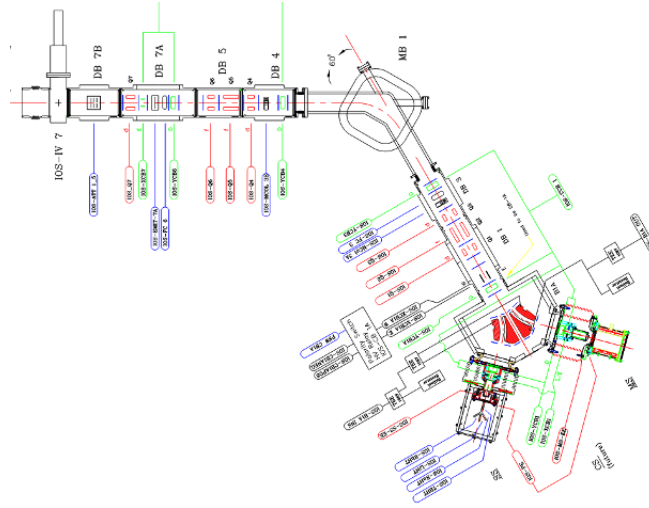

Figure 17: Olis Technical Drawing
Several agents are already trained on different beamlines at ISAC and ready to be tested. The main focus is on beamlines coming from OLIS. Unfortunately, the OLIS beamline is an old beamline, which means that the optical elements are highly misaligned and a lot of steering is needed for transmission. The current coming from the source is low, which means that a beam hitting components of the beamline is not destroying, but it needs beam destructive measurement devices. Taking measurements of the beam current and position takes time. However, due to its high availability OLIS is a good starting for the project to test and learn about trained agents. Figure 17 shows a technical drawing of the beginning of the beamline. In total 3 sources are available (Microwave Source (MS), Surface Source (SS) and Multi Charge Ion Source (MCIS)). The MCIS produces a large B-field, which requires a lot of steering at the beginning of the beamline. The fringe field of the source steers the beam down. For beam coming from SS, it is the opposite. Agents have been only trained for beam coming from MWS, however, for online tests, the more reliable SS has been used. As the beamlines are symmetrical, only polarization of the switching magnet B1A need to be opposite. The first measurement device on the beamline is Faraday Cup (FC) 3, which only measures current. This is challenging for an agent (and operator) as 5 elements need to be adjusted before getting beam on FC 3. There are discussions going on, to add an additional position measurement device (RPM) at the beginning of the beamline. We should push for this idea. MB1 is a magnetic 60° bender. Before and after the magnet, a collimator slit is installed to shape the beam. More information about the slits can be found in chapter 3.8.4. The main OLIS beamline ends with another FC (FC6), several steerers and a position measurement device (RPM 8).